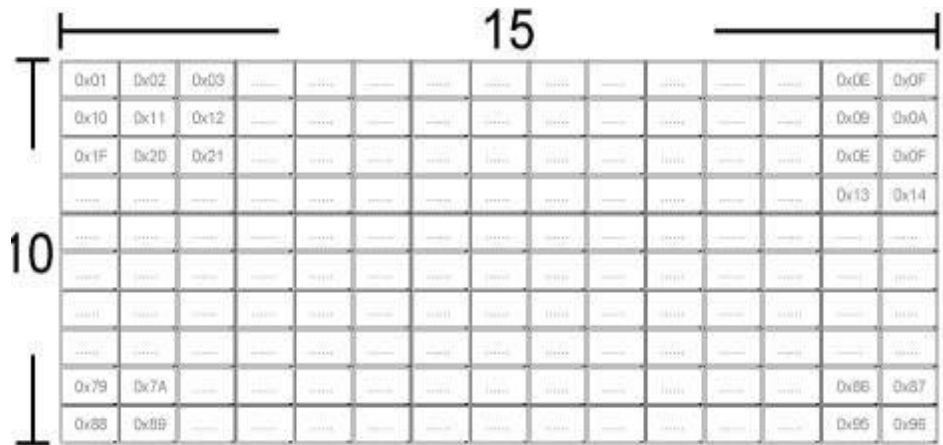

Figure 3: The hexadecimal Position value in a 15x10 (H Monitors x V Monitors) Tiling Wall.
*Example: See Figure 3 for the hexadecimal Position value in a 15x10 (H Monitors x V Monitors) Tiling Wall*
See Figure 3 for the hexadecimal Position value in a 4x3 (H Monitors x V Monitors) Tiling Wall.*